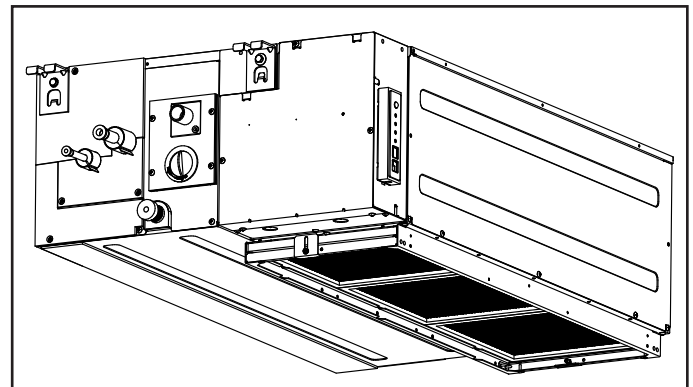

Figure 14. Relocate Return Air Filter Complete
6. Use the existing screws to re-install the return air cover plate on the rear of the unit. See Figure 14.